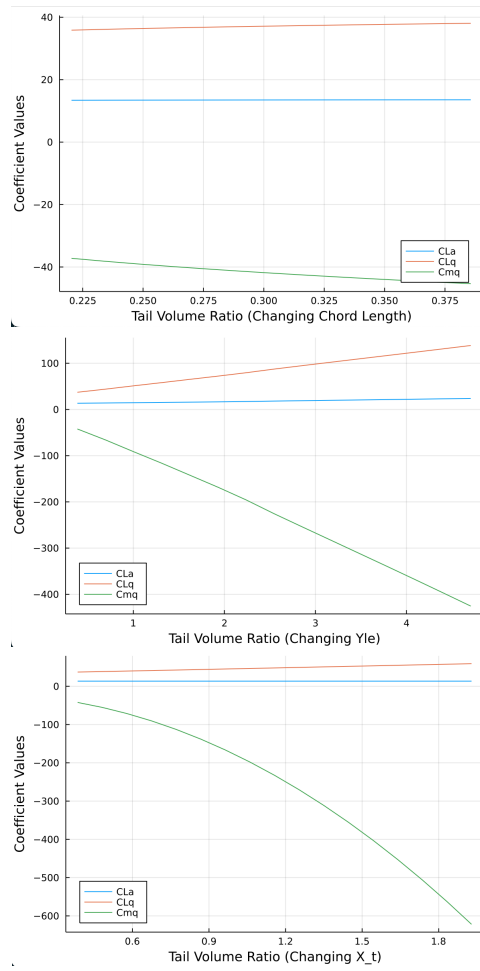

Figure 11: CL_a , CL_q , C_{mq} Stability Derivatives vs Tail Volume Ratio
- In figure 11, the derivative C_{mq} , which is the derivative for pitching motion, decreases to a more negative value as the tail volume ratio increases. This means that this mode gets more stable, and it is not a surprise that changing the tail volume ratio would create more stable "up" and "down" motion since the whole point of the tail is stabilize the plane as it naturally pitches up and down.